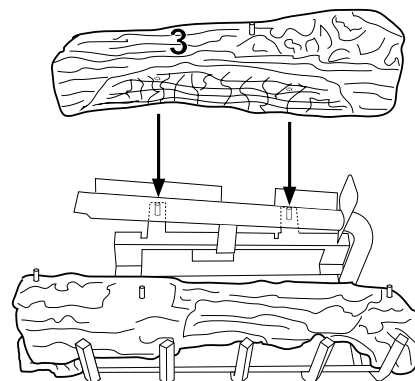

Figure 47 - Installing Log No. 3
3. Place log #3 (rear log) onto pins on rear of grate as shown in Figure 47.